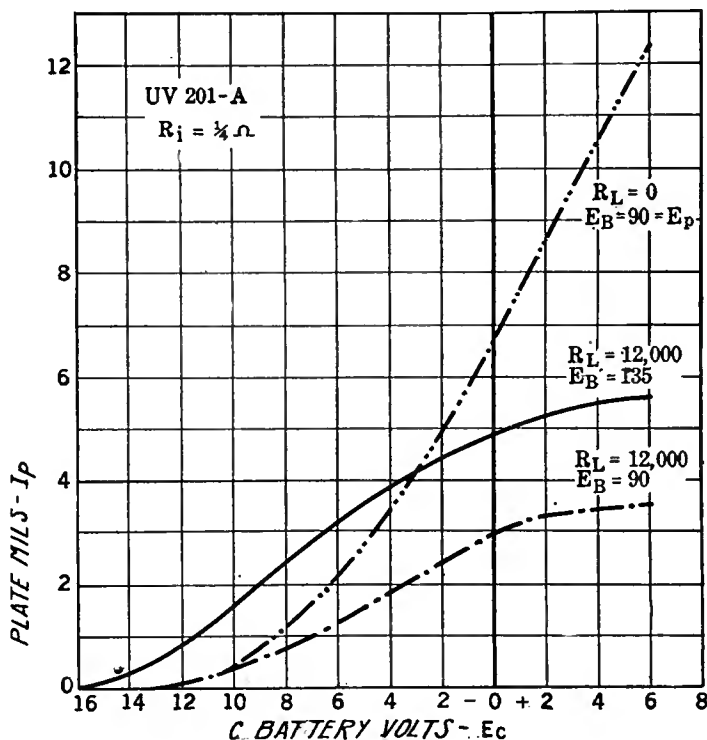

FIG. 2
- e. Plot the results similar to Fig. 2.
To obtain the curves shown in Fig. 2 it is necessary to add resistances in the input and output circuit of an amplifier tube. These resistances simulate the impedances of the preceding and following tubes together with accessory coupling apparatus
As soon as the grid goes positive, current flows in the grid circuit, depressing the input voltage, and the plate current curve flattens out or actually drops. Distortion is inevitable because the plate current no longer is an exact replica of the applied voltage. The tops of the waves are completely obliterated and the plate current jumps about when incoming signals force the grid positive. What comes from the loud speaker differs widely from what leaves the transmitting station. Curves which show this flattening are in Fig. 2 in which the load impedance is 12,000 ohms, and many excellent curves of this nature may be found in a recent article in *Popular Radio* by Hugh S. Knowles.